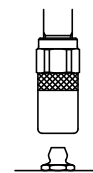

Fig.2
- 2) Snap the coupler straight to the filling and operate the lever of control valve. (Fig.2)